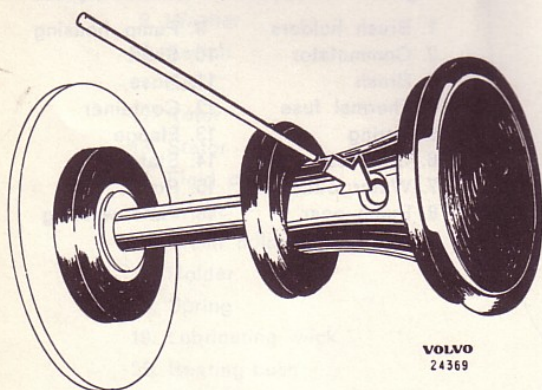

Fig. 107. Pull knob removed
2. Remove the pull button by pushing in the lock pin with a suitable tool and then pull out the button, see Fig. 107.